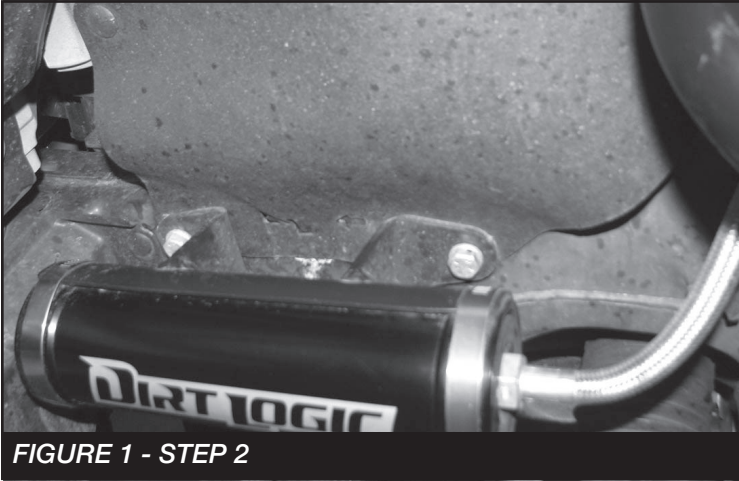

FIGURE 1 - STEP 2
2. Locate FT83369BK (Resi Mount), Install the mount with the supplied self-tapping hardware to the vehicles frame. Install the Resi with the provided clamps. **NOTE: Route the resi hose inside the upper A arm. SEE FIGURE 1**